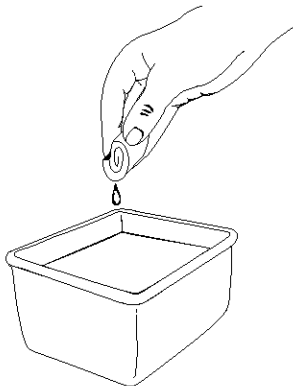

Fig. 36
3. Wash the filter in detergent and water (Fig. 36). Rinse the filter thoroughly and allow it to dry.